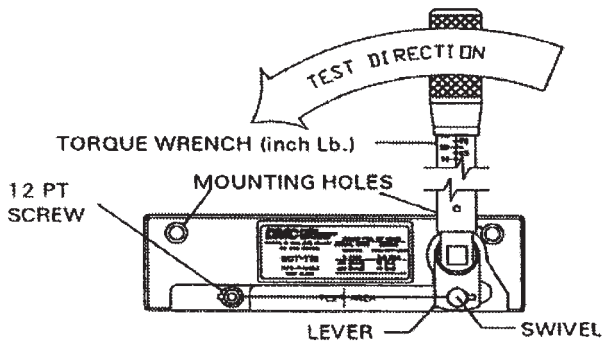

Figure 7-26. Torque Verification Fixture and Torque Wrench
f. Use the torque verification fixture (Figure 7-26.) and a calibrated torque wrench (0-155 inch-pound scale) to verify the safety cable tool indenter adjustment. Thread a new piece of safety cable into the torque verification fixture and crimp a ferrule onto the cable with the safety cable application tool being tested. This process is the same for all hand and pneumatic tool models.